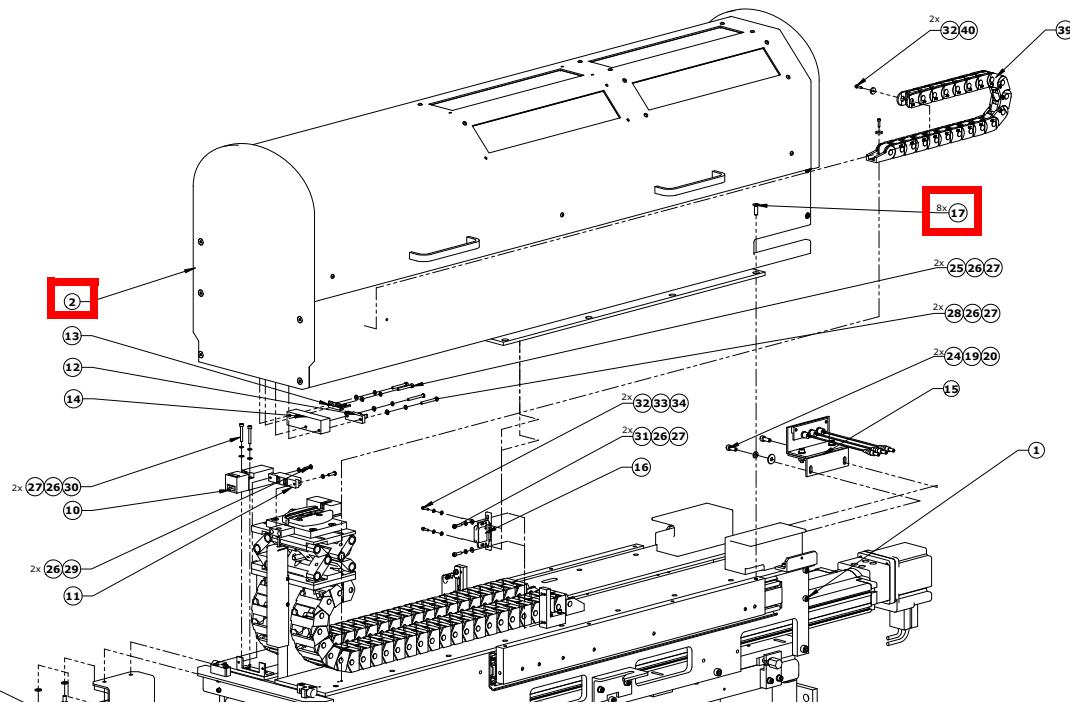
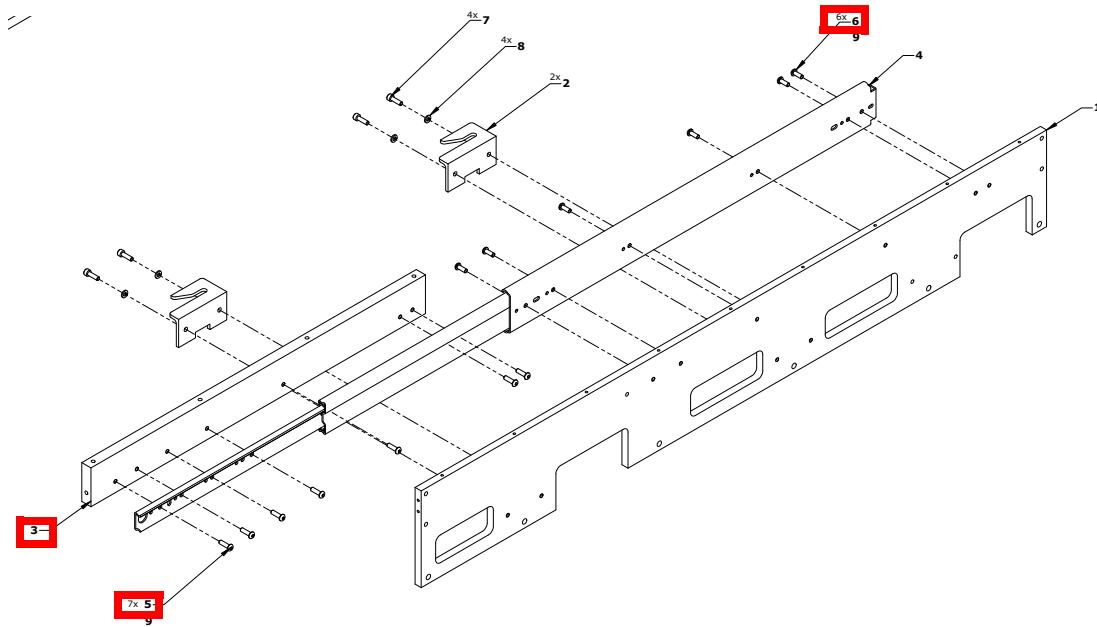
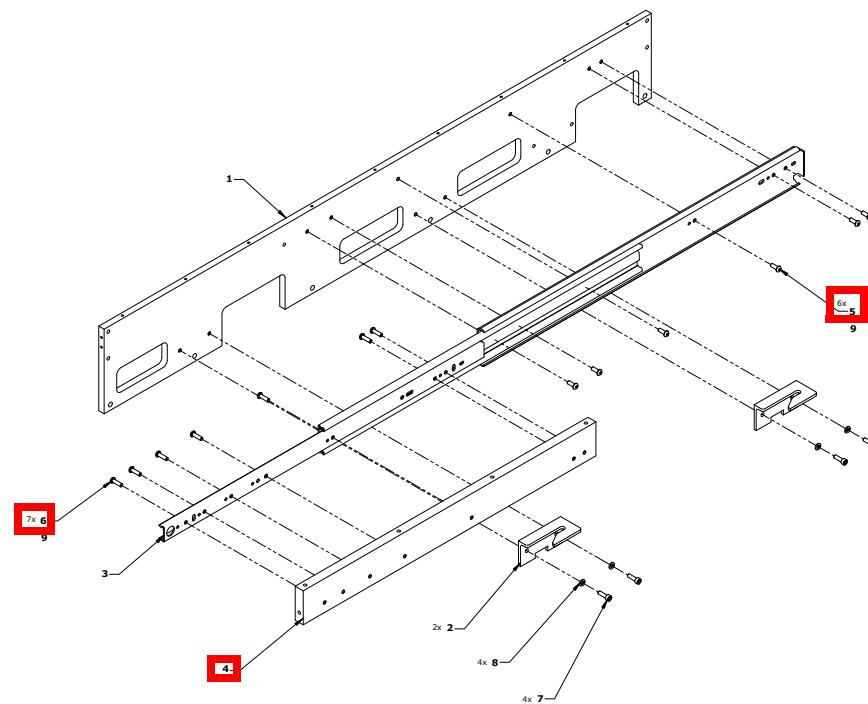

Figure 5-28
Figure 5-29
Figure 5-30
See Figure 5-28.
1. Remove four (4) M6 cap screws (2109884-14, Item 17 Figure 5-28) holding down each side of the Table Shielding Assembly (5241211, Item 2 Figure 5-28) to the Table Cover Mounting Blocks (5191858, Item 3 in Figure 5-29 and 4 in Figure 5-30). Set hardware aside. Lift Table Shielding Assembly up (minimum three persons) and carefully set on blocks above the Table. Drawer Slides should be free to slide.
2. Extend the Drawer Slide on either side of the Table and remove six (6) screws (2109872-7, Item 6 in Figure 5-29 and Item 5 in Figure 5-30). Set hardware aside and place both Drawer Slide/Table Cover Mounting Block assembly (or assemblies if replacing both) on a flat surface.
3. Remove seven (7) M6 button head screws (2109872-8, Item 5 in Figure 5-29 and Item 6 in Figure 5-30) holding each Drawer Slide to a Table Cover Mounting Block, and set hardware and Block aside.
1. Place the replacement Drawer Slide on the Table Cover Mounting Block in the same orientation as the Drawer Slide that was removed. Torque the seven (7) M6 button head screws (2109872-8) set aside during removal to 70 in-lb.
Plate (refer to Figure 5-29 for the left side and Figure 5-30 for the right side). Thread the six (6) screws (2109872-7) starting with the two holes closest together (near the end of the wide section of the slide). Torque to 70 in-lb.